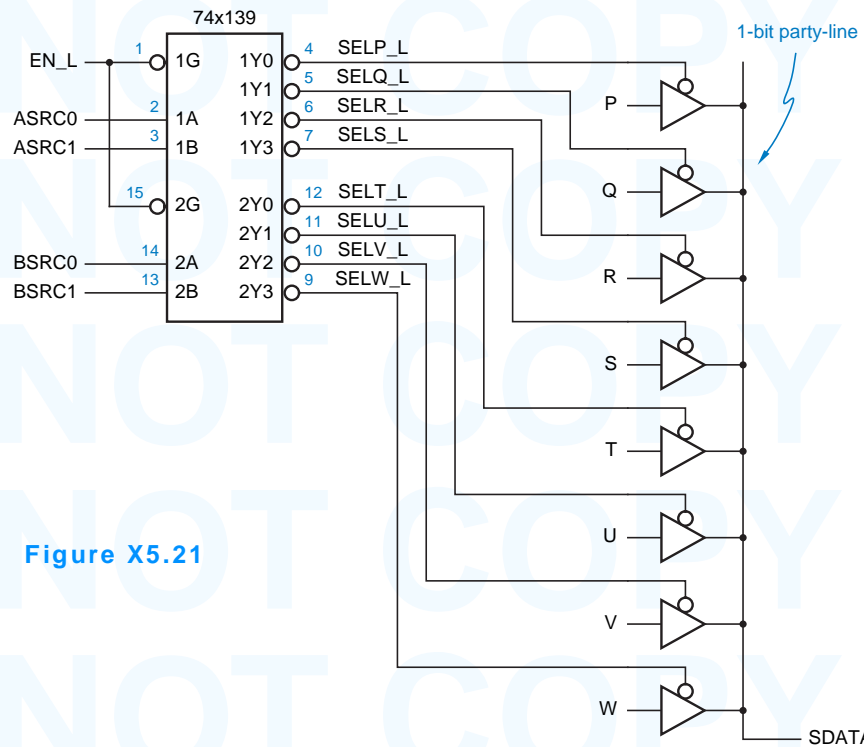

Figure X5.21
- 5.21 What’s terribly wrong with the circuit in Figure X5.21? Suggest a change that eliminates the terrible problem.